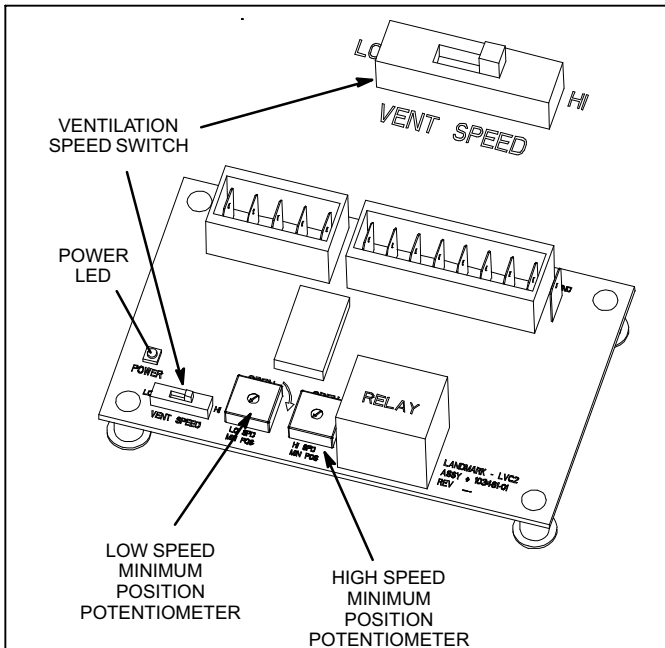

Figure 8. VFD Control Board
To save energy during ventilation, the blower speed can be set to low. This is accomplished by changing the ventilation speed switch on the VFD control board to **LO**. See figure 8.
Note - AFTER setting minimum positions, set the "VENT SPEED" switch on the VFD control board to the desired speed. See figure 8.
21. *AFTER setting both minimum positions, set the "VENT SPEED" switch on the VFD control board to the desired speed. See figure 8.*
Note - AFTER setting minimum positions, set the "VENT SPEED" switch on the VFD control board to "LO". See figure 8. Minimum position potentiometers do not function when the unit is equipped with a W7220 economizer control.